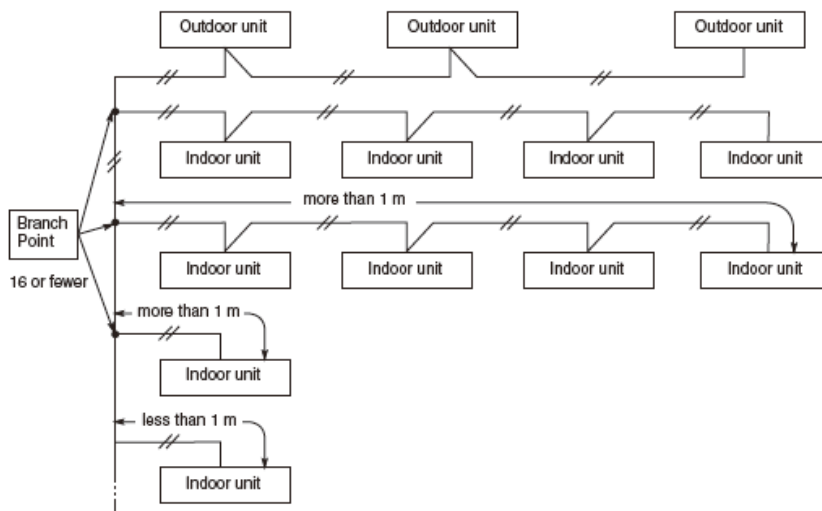

Fig.8-5
- (4) If branching the inter-unit control wiring, the number of branch points should be 16 or fewer.(Branches that are less than 1m are not included in the total branch number.)(Fig.8-5)